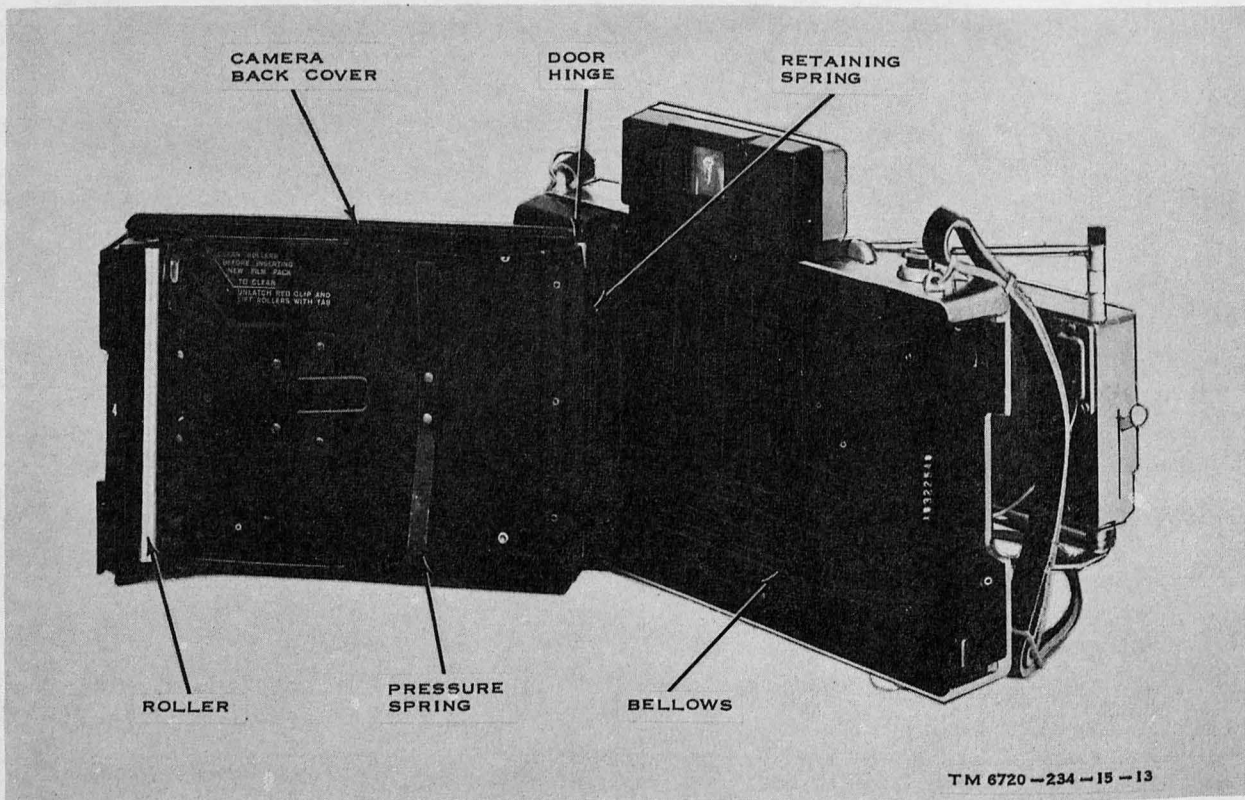
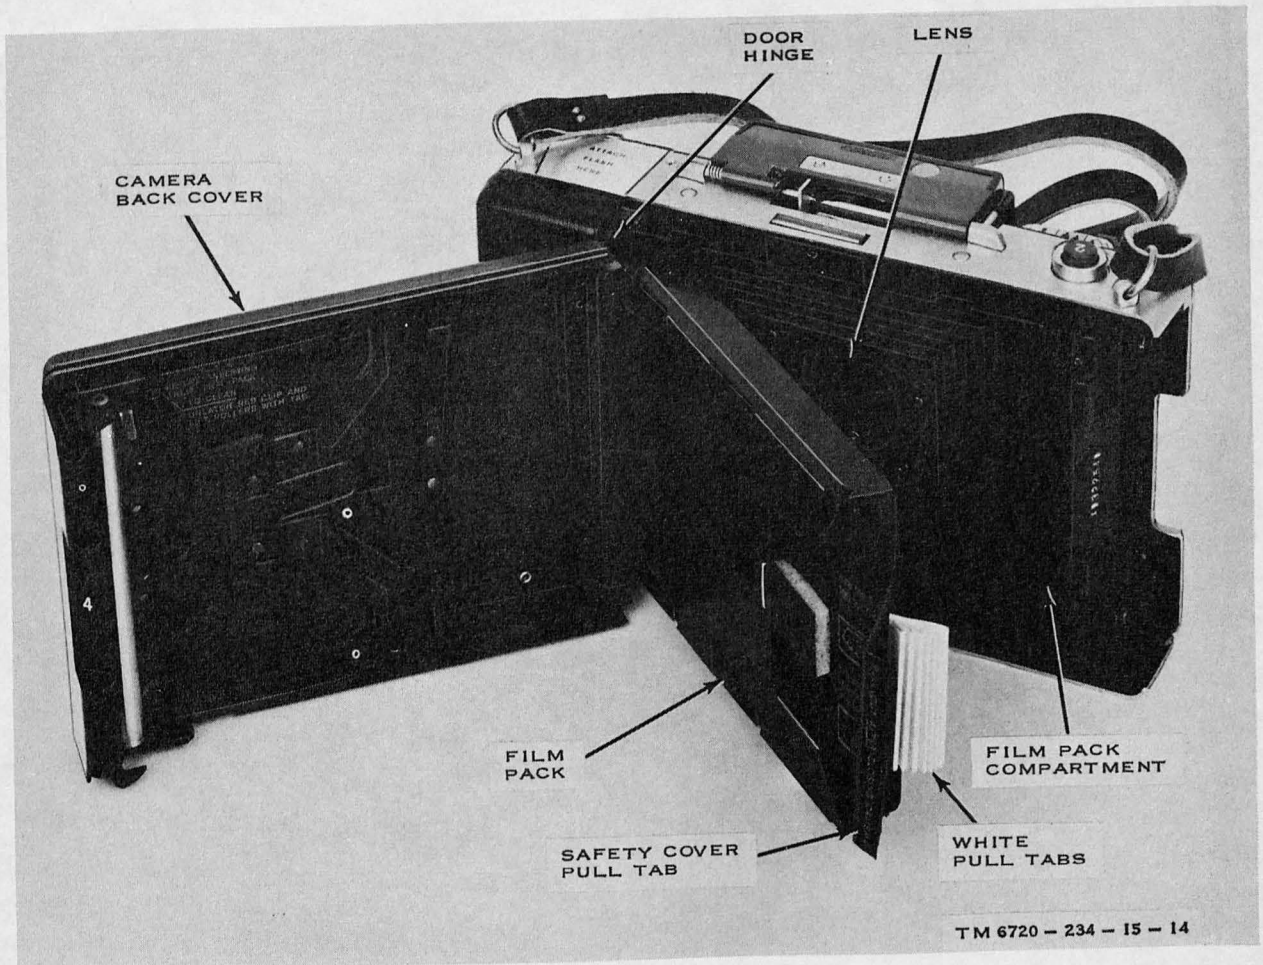

Figure 3-3. Camera, right rear view, with camera back cover open.
Figure 3-4. Camera with film pack partially inserted.
c. Release the camera back cover (fig. 3-3) by sliding back cover release (fig. 1-4) toward the center of the camera body.
d. Open the camera back cover (fig. 3-3), and check the rollers to see that they are clean; if necessary, clean the rollers (para 4-7).
f. Holding the film pack (fig. 3-4) by the edges, carefully insert it into the film pack compartment so that the printing on the safety cover faces the lens and the safety cover pull tab and white pull tabs face to the right as shown.
g. Gently push the bottom edge of the film pack under the door hinge, against the slight tension of the retaining spring (fig. 3-3). Seat the film pack (fig. 3-4) flush in the film pack